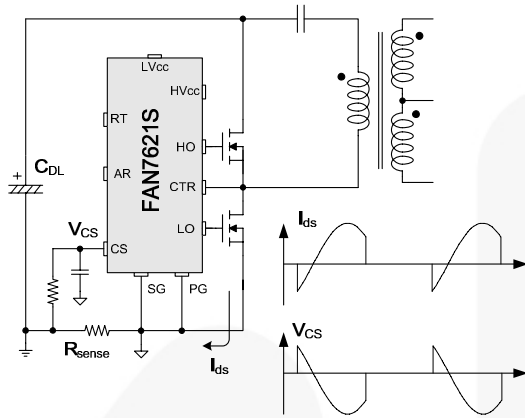
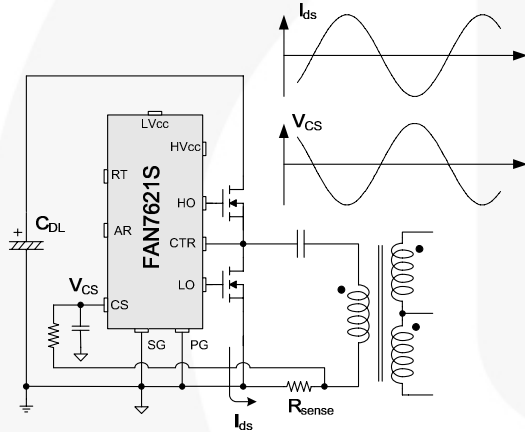

Figure 23. Half-Wave Sensing
Figure 24. Full-Wave Sensing
6. Current Sensing Using Resistor: FAN7621S senses drain current as a negative voltage, as shown in Figure 23 and Figure 24. Half-wave sensing allows low power dissipation in the sensing resistor, while full-wave sensing has less switching noise in the sensing signal.